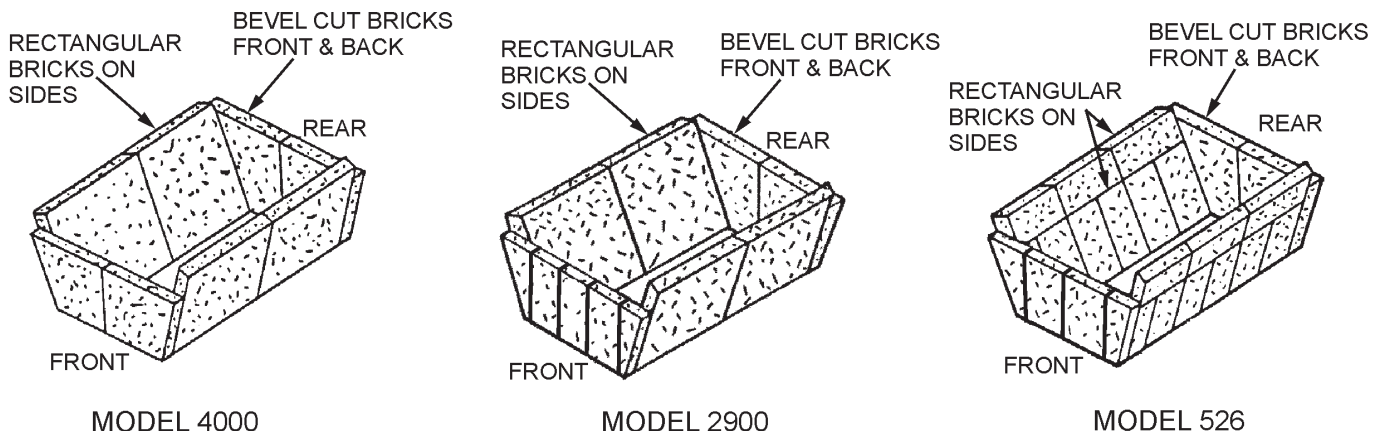

FIGURE 17 INSTALL FIREBRICK
1. Place two 2" thick bricks with bevel cuts against the rear wall of the firebox. See figure 17.